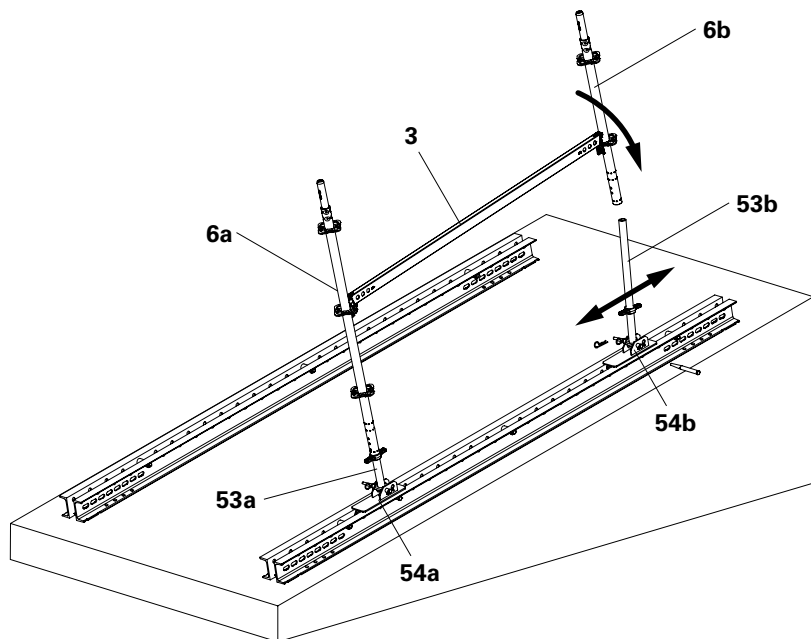

Fig. C2.03
6. Fit the base level with standard (**6a**) onto the Spindle Head SRU (**53a**) first of all. Align the prop adapter (**54b**) and fit the second standard (**6b**) onto the spindle head (**53b**). (Fig. C2.03)